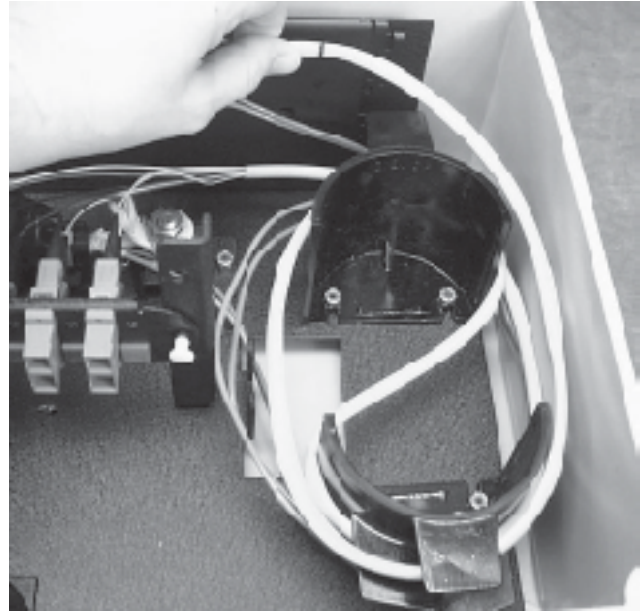

Figure 16
- d) Loop the pigtail fiber from the connector panel around the radius guides as shown in Figure 16 and mark the jacket the same way you did for the buffer tube(s). Remove the cable jacket from the pigtail.